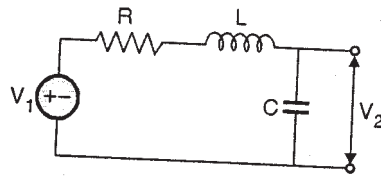

Figure 2
- Q8) a)** For the series RLC circuit shown in Fig.2, find transfer function V_2/V_1 . Calculate the sensitivities of K, the pole frequency ω_p , the factor (Q_p) with respect to R,L and C. Comment on the result obtained. [6]